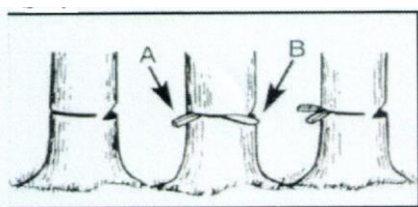

Fig. 11
- Use wooden or plastic wedges (Fig. 11) to avoid forcing the bar and chain when cutting.